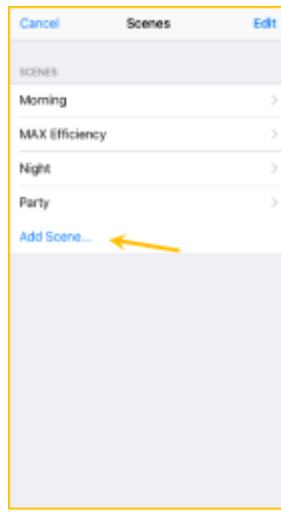
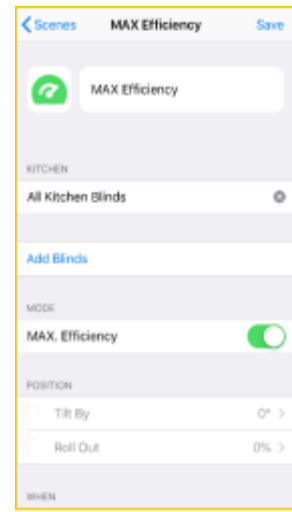

Figure 45
Figure 46
**10.10.3.** To change setting of the scenario, click on name of the desired scenario (Fig. 45) and introduce changes (Fig. 46):
**10.10.4.** To add a new operating scenario for the BLINDS click **Add Scene** (Fig. 45) and go through the setting process as described in para. 7.